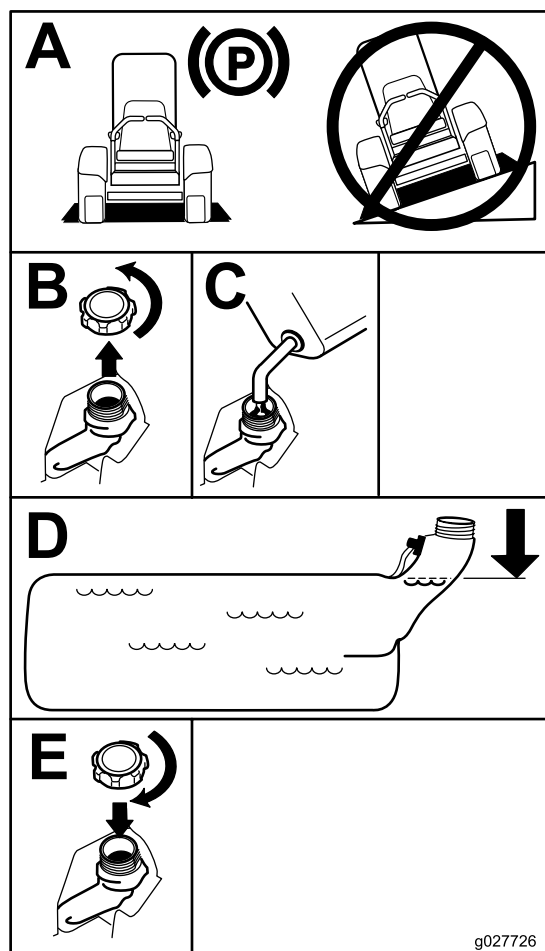

Figure 7
3. Clean around the fuel-tank cap and remove it. Add regular unleaded gasoline to the fuel tank until the level is 6 to 13 mm (1/4 to 1/2 inch) below the bottom of the filler neck (Figure 7).